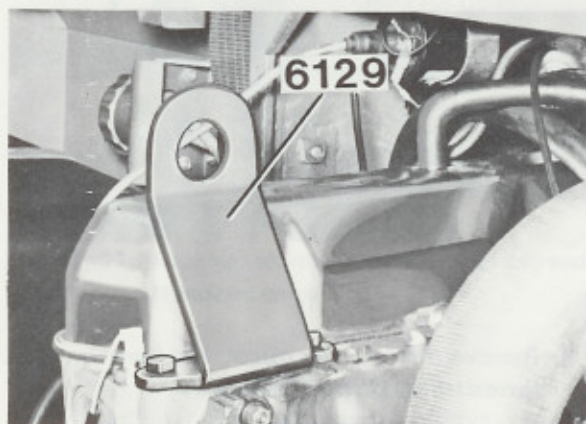

Fig. 21-5. Attaching the lifting lug 6129
- a. Fit lifting lug 6129 on the rear cylinder head bolts, see Fig. 21-5.